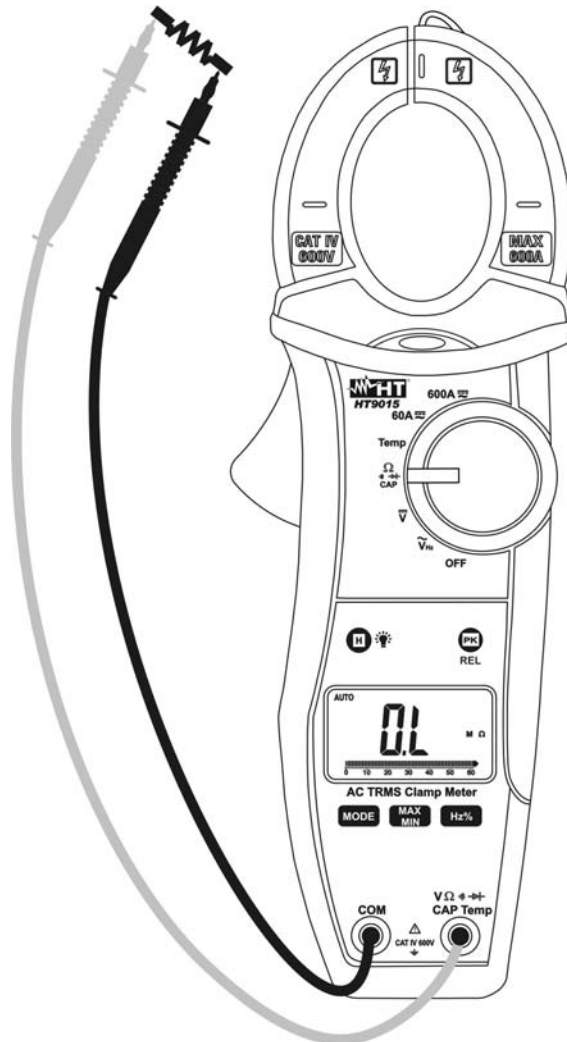

Fig. 5: Taking Resistance measurement
2. Insert the red test lead plug into $V\Omega$ \rightarrow **CAP Hz %Temp** jack and the black test lead plug into **COM** jack (Fig. 5)